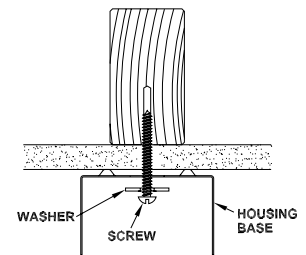

Fig. 5
Insert (2) #8 or #10 AB screws (purchased separately) through 7/8" minimum dia. washers (purchased separately) and the housing into each of the drilled holes to secure the housing to the ceiling. **See Figure 5.**
Insérer (2) vis de calibre 8 ou 10 dans des rondelles de 7/8 po dia. minimum (achetés séparément) et dans les trous du boîtier afin de le fixer au plafond. _____ **Voir la figure 5.**